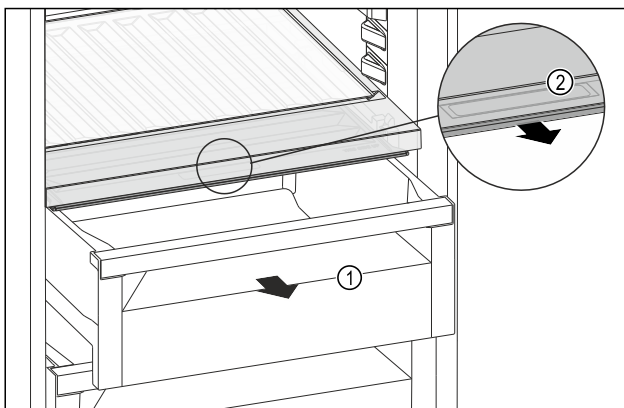

Fig. 183
- Pull out the drawer Fig. 183 (1).
- Grasp the recessed grip Fig. 183 (2) on the compartment lid and pull the compartment lid forwards at the same time.